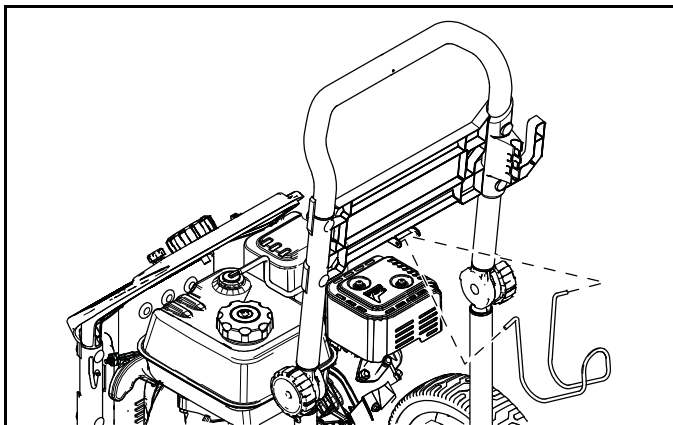

Figure 4-4. Install Hose Hook
4. Install hose hook (Figure 4-4).